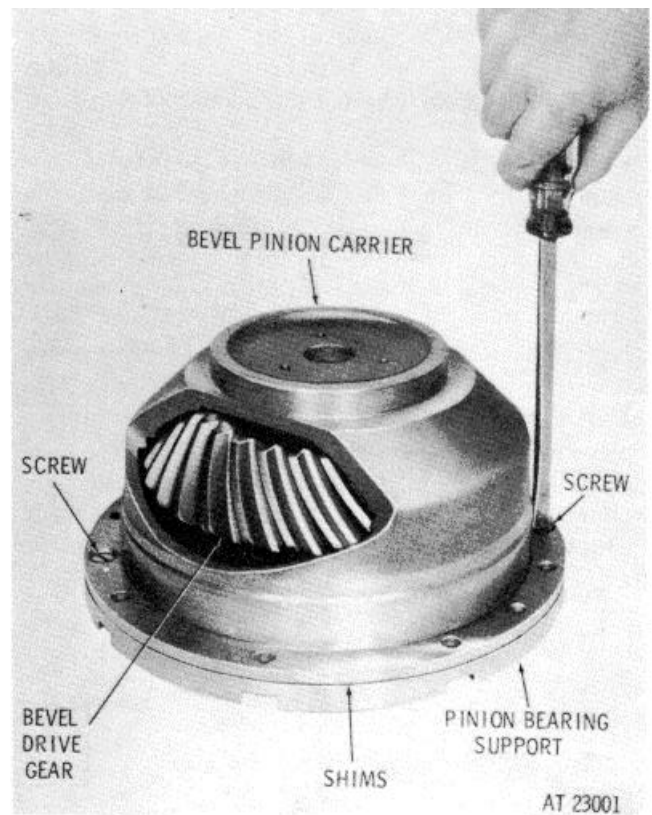

Figure 7-19. Removing(or installing) bevel drive gear assembly screws.
a. Remove two flat-head screws from the bevel pinion carrier (fig. 7-19).
e. Before proceeding further with the assembly, refer to paragraph 8-3 for the procedure to determine the nominal shim dimension between pinion bearing support (38, FO-5) and bevel pinion carrier (32).
f. Record the mounting distance (MD) and backlash (BL) as etched on bevel drive gear (44).
h. Install the bearing support and shims onto the bevel pinion carrier, aligning the bolt holes (fig. 7-19).
i. Secure the bearing support to the bevel pinion carrier with two flat-head screws (fig. 7-19).